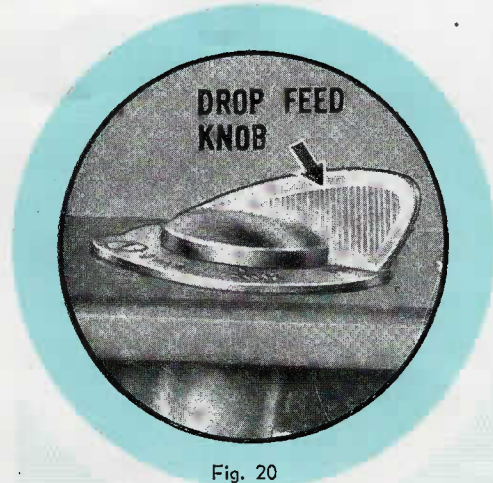

Fig. 20
4. Set Drop Feed Knob (Fig. 20) to "EMBR." position.
By using the drop feed device you may adjust the feed dog for sewing different types of materials and for embroidering or darning (Fig. 20).